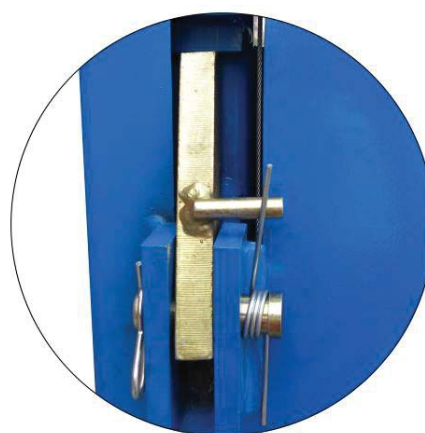

Fig 18
K. Install safety cable (See Fig. 18).